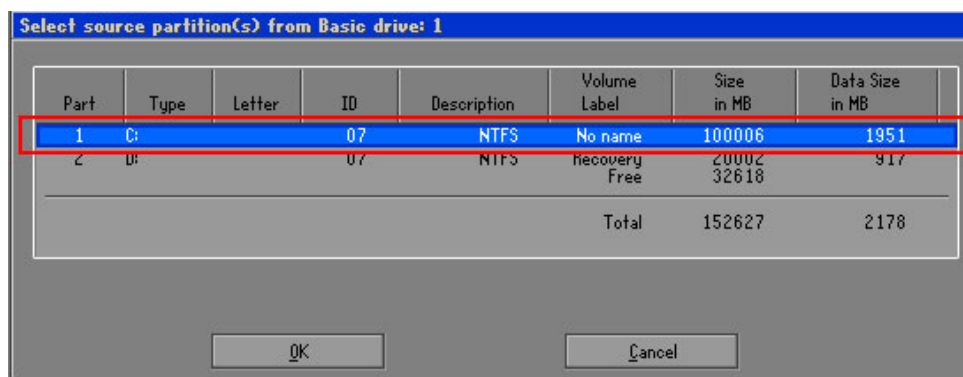

Figure D-15: Select a Source Partition from Basic Drive
Step 6: Select a source partition (Part 1) from basic drive as shown in **Figure D-15**. Then click OK.